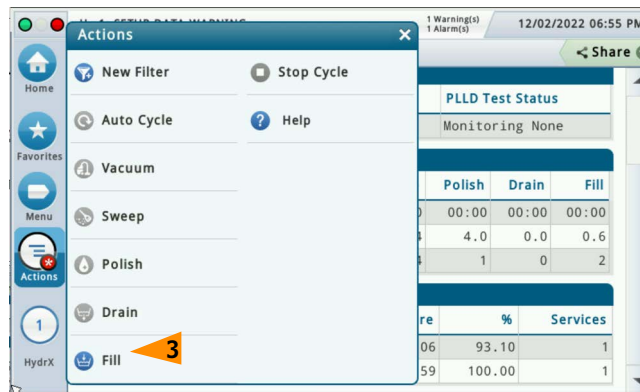

Figure 6. HydrX Diagnostic Service Menu
3. Touch **Fill** (Item 3, Figure 6) to refill the HydrX filter compartments with fuel from the tank.